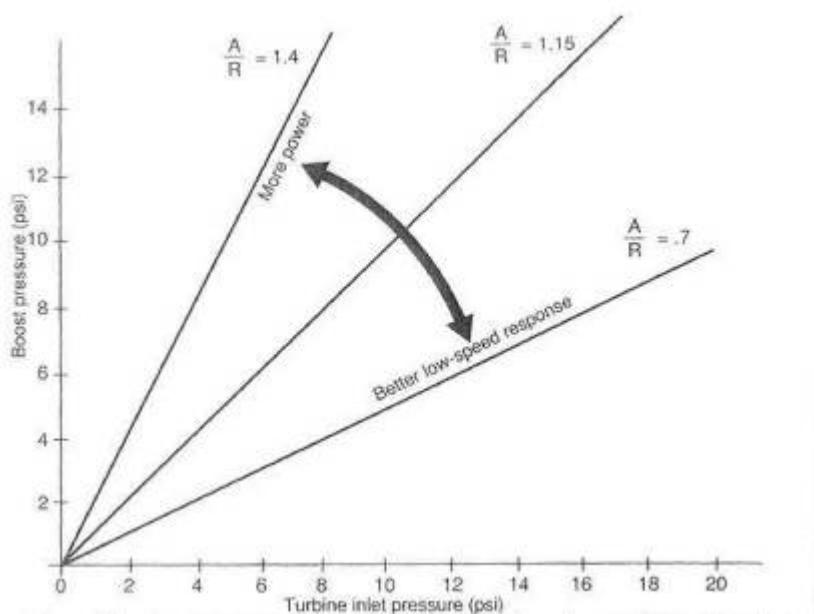

Fig. 3-13. The effect of varying the A/R ratio, all other factors remaining constant
It is of further value to note that a larger R will effectively give the turbine shaft greater torque with which to drive the compressor wheel. The same force (exhaust gas) applied with a greater lever arm (R) puts more torque into the shaft. This, on occasion, can allow a bigger compressor wheel if conditions so require. In practice, however, it is almost always the A that is changed, while the radius remains constant. A simplified approach to choosing the A/R ratio is summed up in Fig. 3-13.